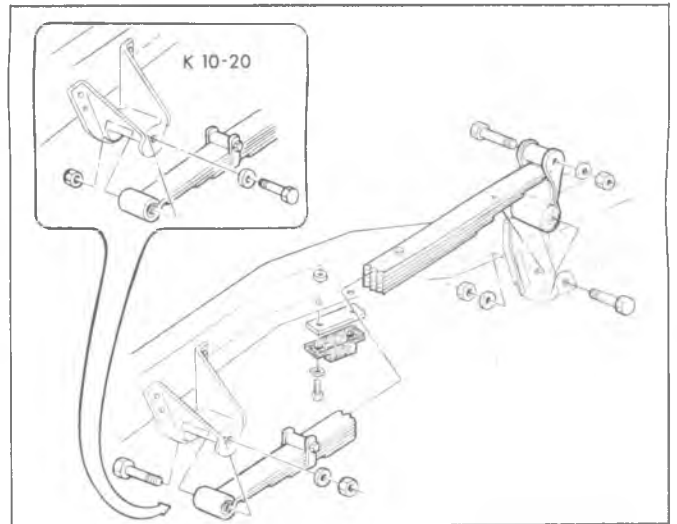

Fig. 13—Leaf Spring Installation (Series 10-20)
NOTE: The shackle assembly must be attached to the rear spring eye before installing shackle to rear hanger (fig. 13).
4. Remove shackle-to-frame bracket retaining bolt--then remove shackle bolt from spring eye (fig. 13).